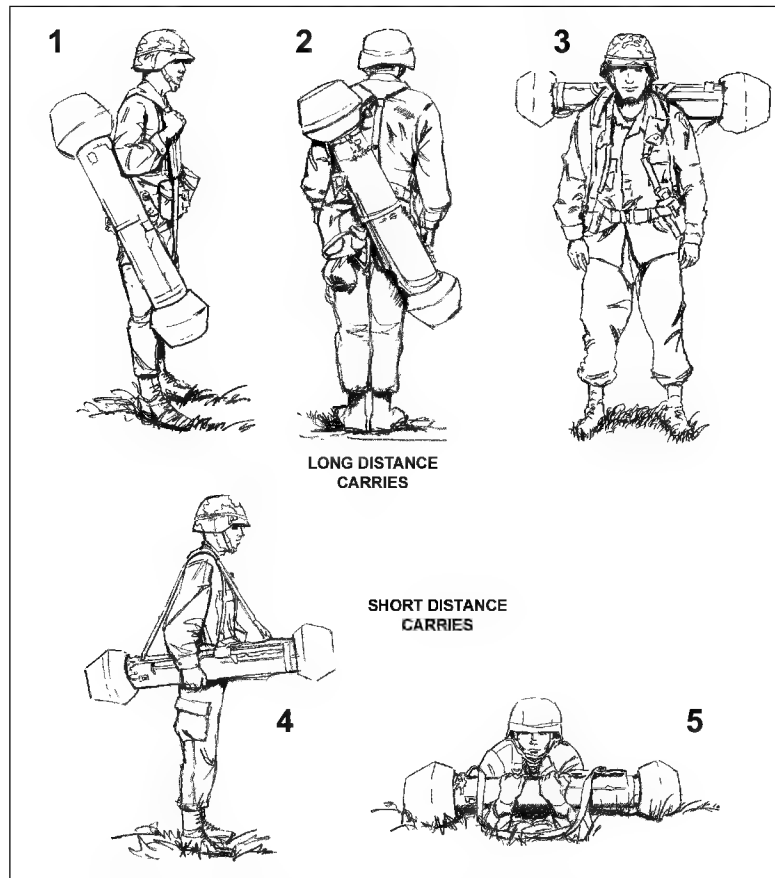

Figure 2-1. Dragon carry techniques.
a. **Long-Distance Carry.** The Dragon gunner normally carries the round and the sight separately. This carrying technique is most often used during long-distance moves such as foot marches or cross-country travel, or when contact is not likely. For long-distance travel, the gunner uses carrying technique 1, 2, or 3, as shown in Figure 2-1 (page 2-2).
b. **Short-Distance Carry.** The gunner can carry the Dragon short distances with the sight mated to the round. When using this type of carry, the gunner must keep the forward protective shock absorber and lens covers in place until the weapon is likely to be used. The protective lens covers prevent possible damage to the sight lens and keep foreign objects out of the launcher. Carry technique 4 and 5, also shown in Figure 2-1 (page 2-2), can be used with the round and the sight mated. The soldier should only use one of these carry techniques when firing is likely. Otherwise, he should avoid carrying the weapon system in a ready-to-fire configuration.